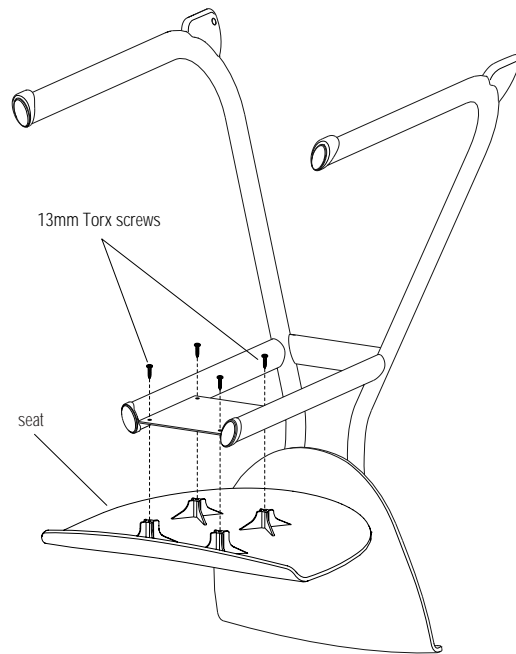

Figure 1
1. To remove an existing seat, carefully turn the chair upside down on a soft protective surface. Locate the four 13mm seat mounting screws and remove them with a Torx T20 drive (Figure 1).
2. To install a new seat, first position the seat in place over the mounting holes and loosely start each of the four 13mm Torx screws. Using a Torx T20 drive, carefully tighten each of the four screws (Figure 1).